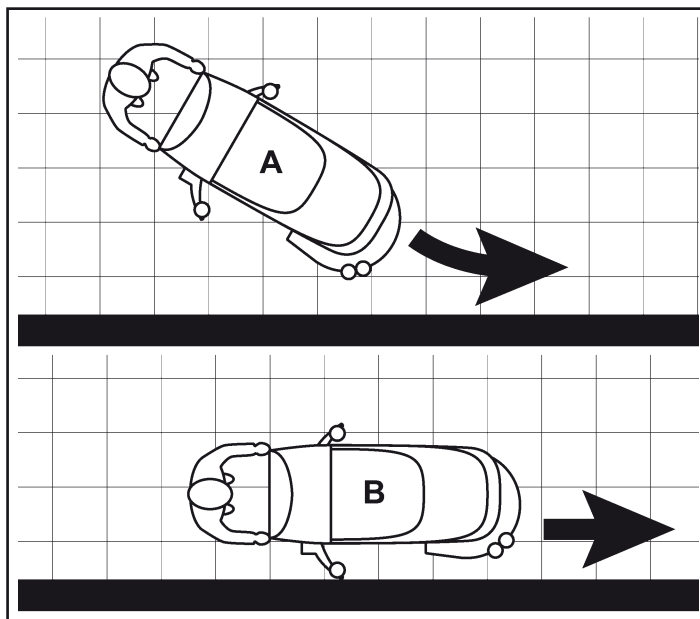
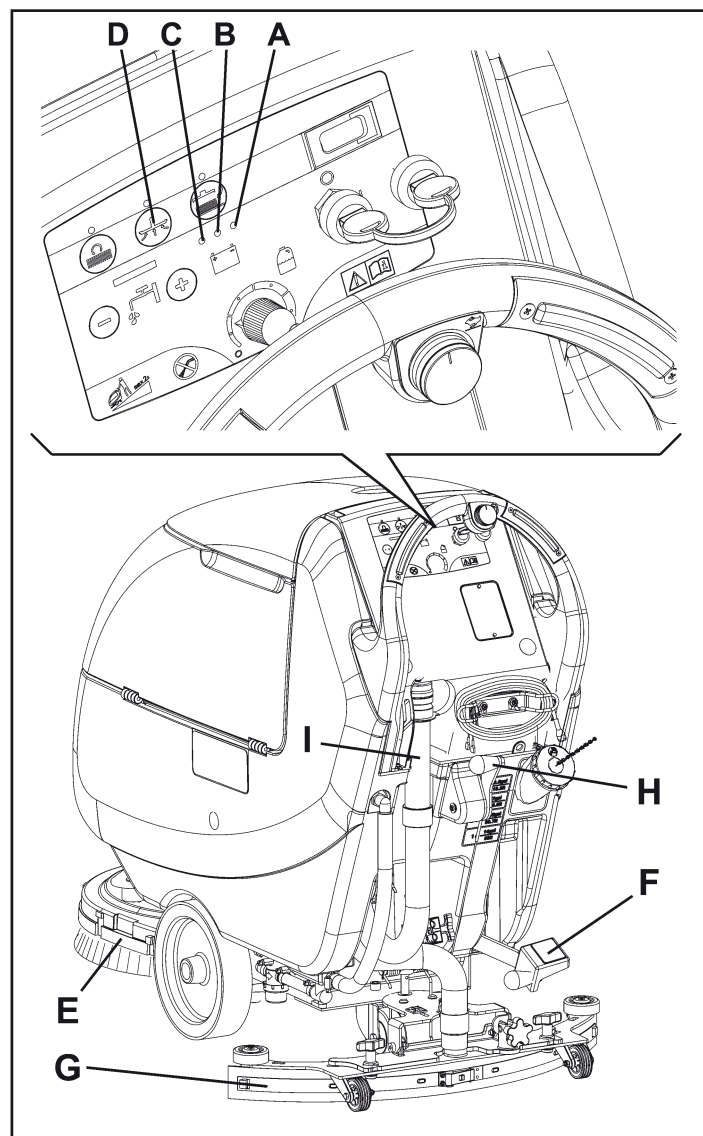
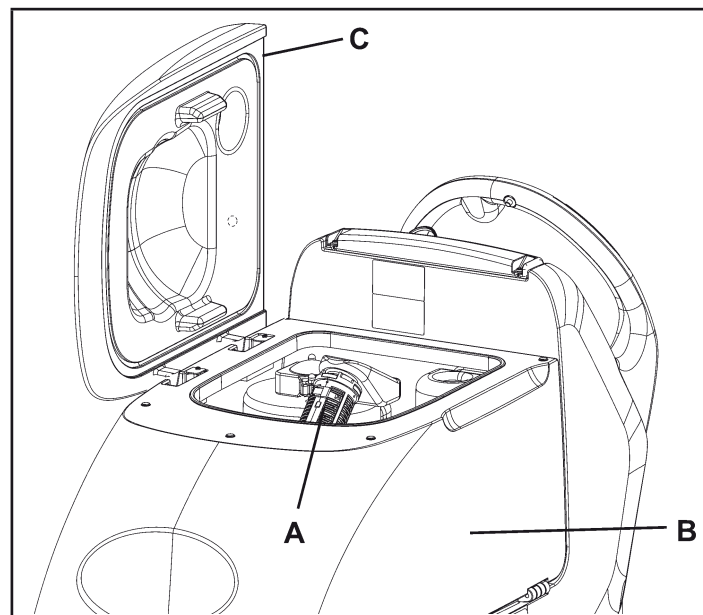

Figure 19
Figure 21
Figure 22
For correct scrubbing/drying of floors at the sides of the walls, Clarke suggests to go near the walls with the right side of the machine (A and B, Fig. 19) as shown in the figure.
Until the green warning light (A, Fig. 21) stays on, the batteries allow the machine to work normally. When the green warning light (A) turns off, and the yellow warning light (B) turns on, it is advisable to charge the batteries, because the remaining charge will last for a few minutes (depending on battery characteristics and work to be performed). When the red warning light (C) turns on, batteries are fully discharged. After a few seconds, the brush/pad-holder is automatically tuned off, while the vacuum system and (only for **FOCUS II L17, FOCUS II L20, FOCUS II L20 Cyl., BOOST L20**) the drive system stay on, to finish drying the floor and drive the machine to the appointed recharging area.
An automatic float shut-off system (A, Fig. 22) stops the vacuum system when the recovery water tank (B) is full. The vacuum system deactivation is signaled by a sudden increase in the vacuum system motor noise frequency, also the floor has not dried.
**If the vacuum system turns off accidentally (for example, when the float is activated because of a sudden machine movement), to resume the operation: turn off the vacuum system by pressing the switch (D, Fig. 19), then open the cover (C, Fig. 22) and check that the float inside the grid (A) has gone down to the water level. Then close the cover (C) and turn on the vacuum system by pressing the switch (D, Fig. 19).**
When the recovery water tank (B, Fig. 21) is full, empty it according to the following procedure.
2. Lift the brush/pad-holder deck (E, Fig. 21) by pressing the pedal (F).
3. Lift the squeegee (G) with the lever (H).
5. Empty the recovery water tank with the hose (I). Then, rinse the tank (B, Fig. 22) with clean water.